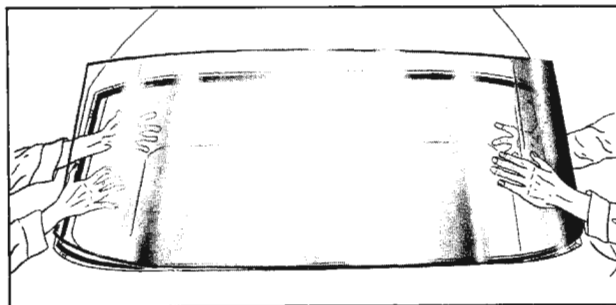

Fig. 16-217 Windshield Installation
7. With aid of helper, lift glass with one hand on outside of glass and one hand on inside of glass. Carefully set glass against lower center spacer or adhesive caulk bead, maintaining glass in a near-vertical position. While one man holds glass in this position, the second man can reach around the windshield pillar and hold glass; then, first man can reach around windshield pillar. (Fig. 16-217) Carefully position glass into opening, making certain that glass is properly centered and positioned on lower spacers.
11. With aid of helper, lift glass with one hand on outside of glass and one hand on inside of glass. Carefully set glass on lower center spacer, maintaining glass in a near-vertical position. While one man holds glass in this position, the second man can reach around the windshield pillar and hold glass; then, first man can reach around windshield pillar. (Fig. 16-217) Carefully position glass into opening, making certain that glass is properly positioned on spacers.